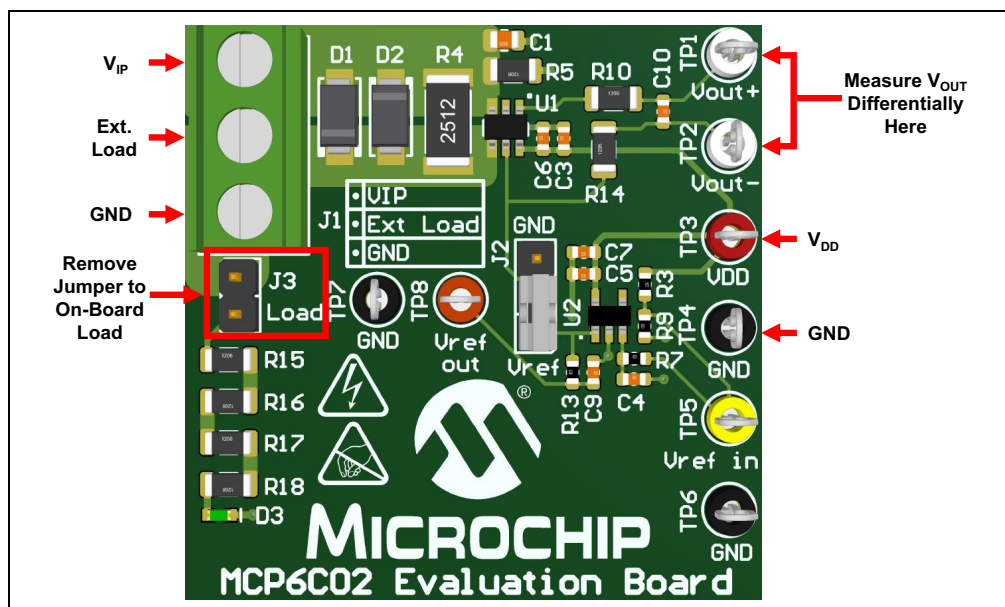

FIGURE 2-6: Using the External Load.
3. Connect the positive terminal of the external load to the external load terminal (middle terminal of J1, "Ext. Load") on the MCP6C02 Evaluation Board (see Figure 2-6).